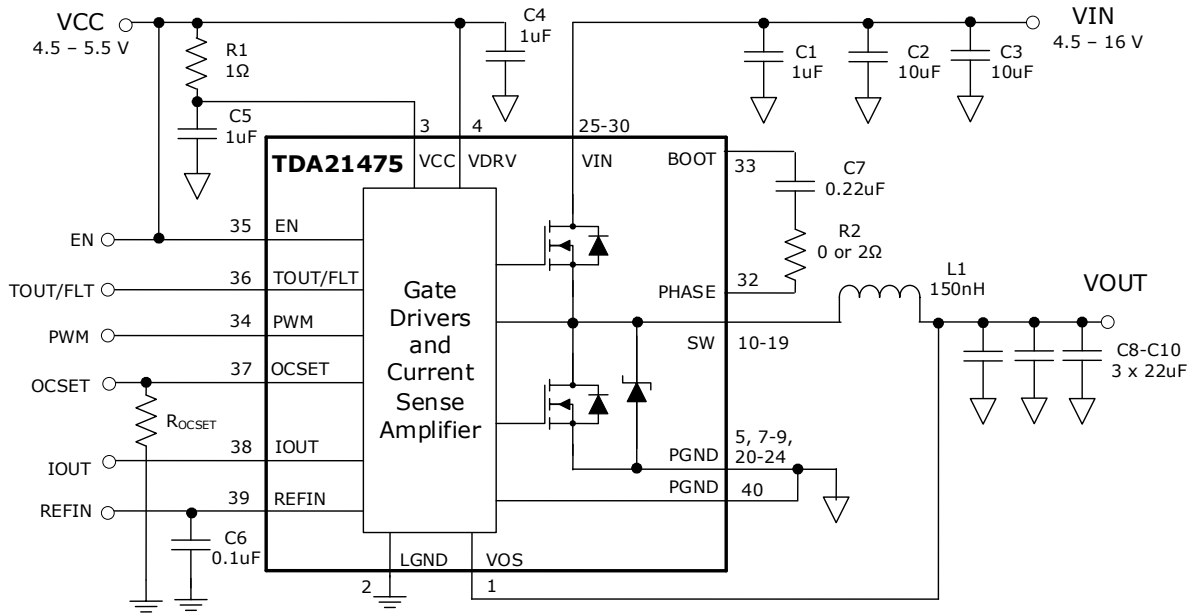

Figure 12 Typical Application Diagram for Single-Phase Voltage Regulator
Single Phase Circuit of Figure 12,  $V_{IN} = 12\text{ V}$ ,  $V_{OUT} = 1.8\text{ V}$ ,  $f_{SW} = 600\text{ kHz}$ ,  $L = 150\text{ nH}$ ,  $V_{CC} = V_{DRV} = 5\text{ V}$ ,  $T_{AMBIENT} = 25^\circ\text{C}$ , no heat sink, no air flow, 8-layer PCB board of 3.7”(L) x 2.6”(W), no PWM controller loss, no inductor loss, unless specified otherwise.